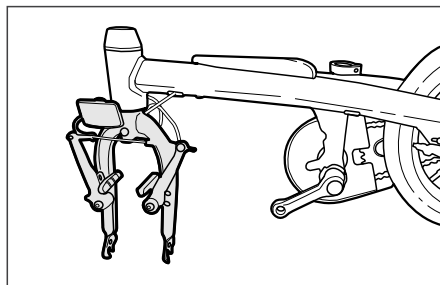
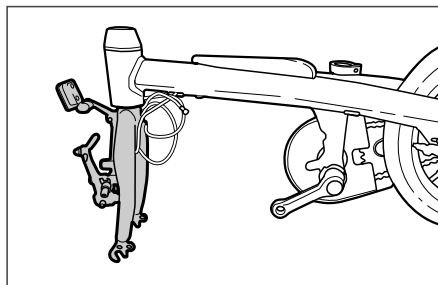

Figure 1
Figure 2
- First, align the fork. Rotate it, to ensure it moves freely without binding (Figure 1), making sure the fork is pointing in the right direction, with the fork blades facing forward (Figure 2).